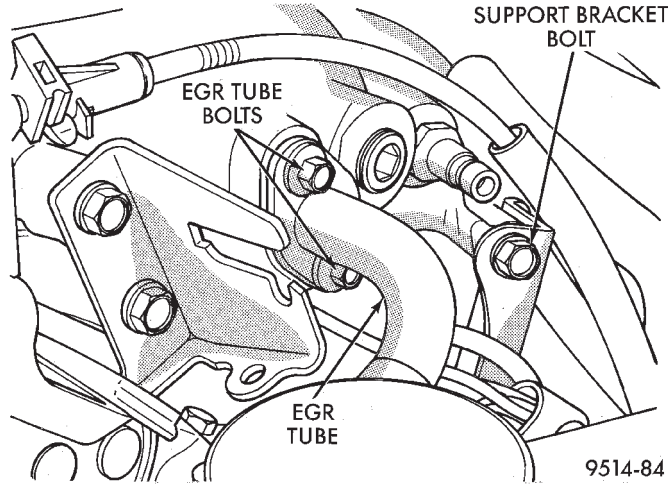

Fig. 35 EGR Tube and Right Manifold Support Bolt
(13) Remove EGR tube from intake manifold and discard gasket (Fig. 35).
(14) Remove plenum support bracket bolt located rearward of EGR tube (Fig. 35).